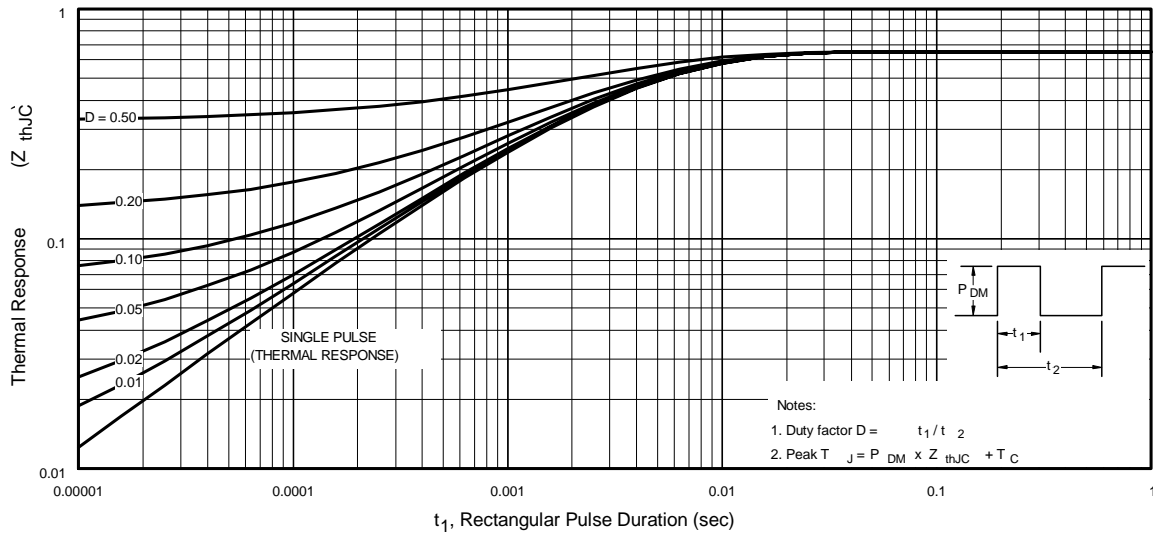

Fig 11. Maximum Effective Transient Thermal Impedance, Junction-to-Case
$Z_{thJC}(D, t_{av})$ = Transient thermal resistance, see figure 11)
- ① Repetitive rating; pulse width limited by max. junction temperature. (See fig. 11).
- ② Starting $T_J = 25^\circ\text{C}$, $L = 0.063\text{mH}$